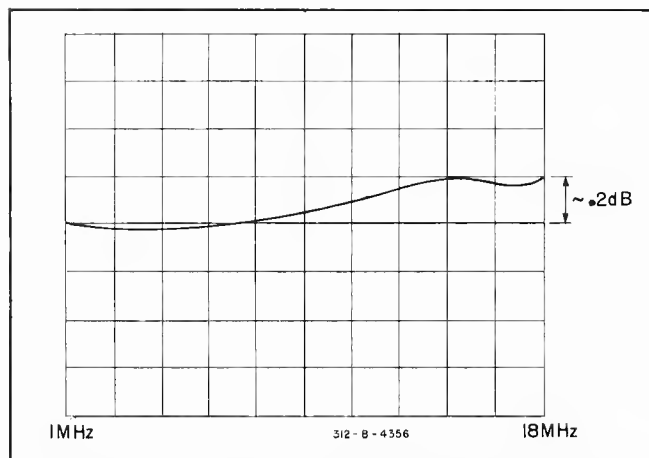

Figure 5-17. Optimum Adjustment of A33 - 312B.
e. Adjust the oscilloscope controls for a display which looks like Figure 5-17. The display gives relative frequency response with frequency increasing from left to right. The display is meaningful only when the trace moves from left to right. The retrace (right to left motion) should be ignored. Use the offset control for vertical positioning. Set the storage persistence so that each sweep fades out before the next one starts.
The waveform of Figure 5-17 is ideal for the 312B. For the 312D the same waveform is ideal but the response should not peak more than + 0.1 dB at high frequencies.
7. Adjust C2. Reduce the slope of the frequency response as shown in Figure 5-17. If necessary, re-adjust C11 and L2 to achieve this response. If the frequency response cannot be adjusted, return to Step 1 and repeat the procedure using different settings for L1 and L3. If the response is correct, proceed to Step i.
c. Adjust A32C10 for the same frequency response characteristic shown in Figure 5-17.